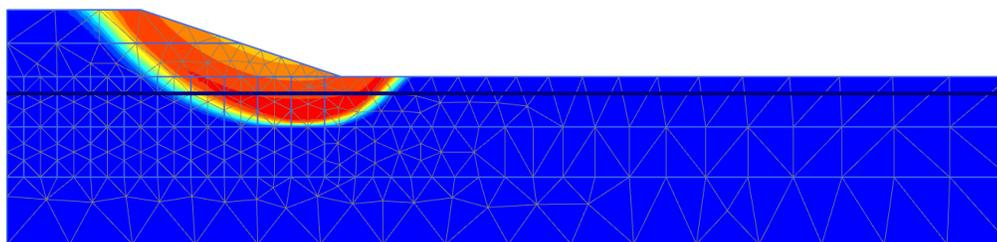

Figure 123: Shadings of the total displacement increments indicating the most applicable failure mechanism of the embankment in the final stage
3. Change the presentation from **Arrows** to **Shadings** . The resulting plots shown in Figure 123 (on page 142) gives a good impression of the failure mechanisms. The magnitude of the displacement increments is not relevant.